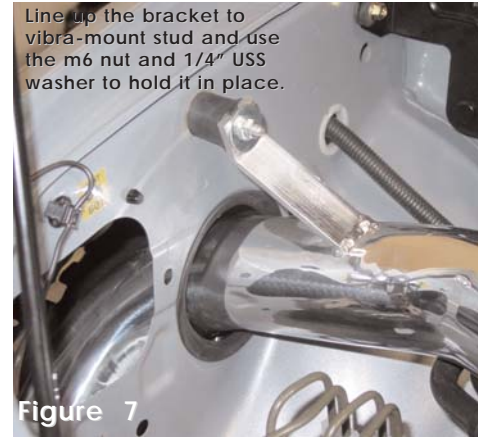

Figure 7
- 7- Insert the filter end into the resonator opening and line up the bracket to the vibra-mount stud. Use the m6 nut and fender washer to hold the intake in place. (See fig. 7)